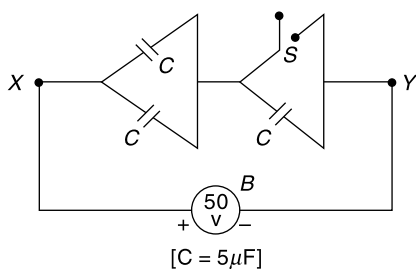

Fig. 2.58 Circuit of Ex. 2.53
2.53 Find the charge that will flow through the battery B when switch S is closed (Fig. 2.58).